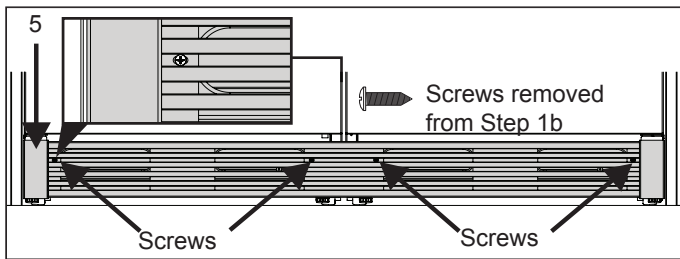

Figure 19
- b. **(Dual Unit)** Attach the kick plate to the cabinet with 4 screws. (See Figure 19.)